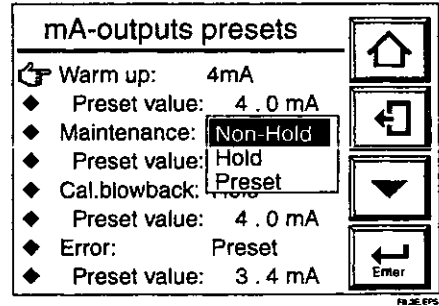

Figure 8.3
- (2) From this display (Fig. 8.2), select the desired display. Figure 8.3 shows an example of selecting Maintenance. Select the desired output status.
- (3) If a preset value is selected, set the corresponding output current. If you select a preset value just below Maintenance on the screen, the numeric-data entry display will appear. Enter the current value you want. To set 10 mA, type in 010 and press the [Enter] key to complete the setting. The setting range is from 2.4 to 21.6 mA.